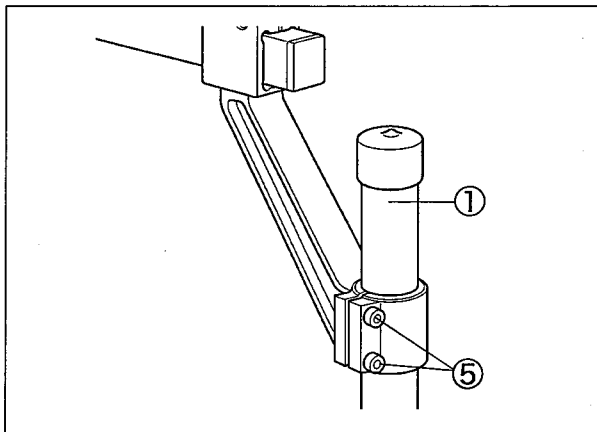

Fig. 2-17
2. Adjust the position of tape feeder ④ to where the tape can be supplied to the presser foot smoothly and the tape feeder does not obstruct sewing operation.
○ For the right-and-left position and the height, adjust the sub pole by loosening the screws ⑤. (Fig. 2-17)